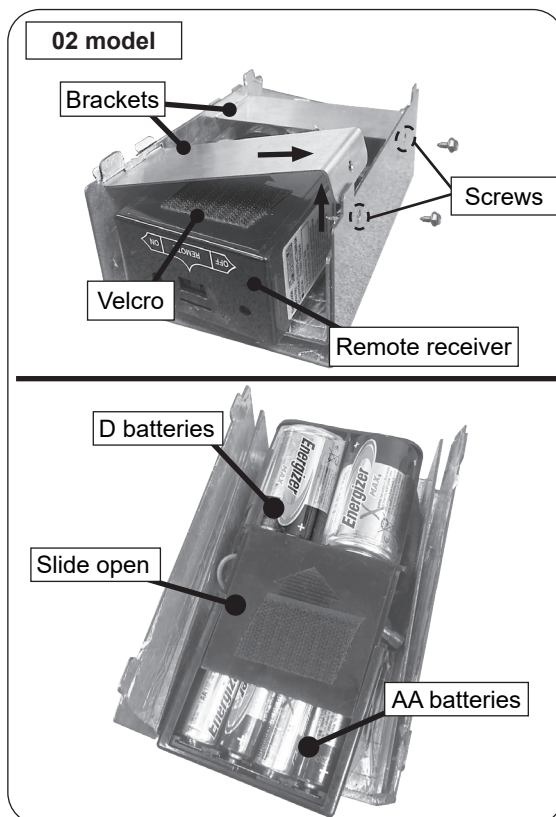

Fig. 21-1 02 model receiver/switch box
1. The remote receiver/switch box requires 4 AA batteries and 2 D batteries to operate (included). Locate the remote receiver box and turn it over. Use a flathead screwdriver to remove the screws found on the side of the box, then remove the brackets. See Fig. 21-1.
3. Slide open the lid, and properly insert the new batteries as marked. See Fig. 21-1.